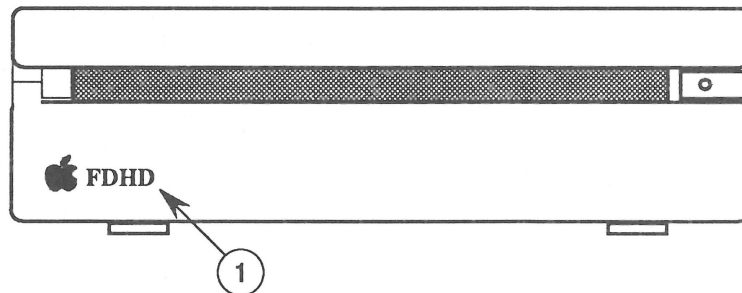

FIGURE 1
1. Check the front of the case; **FDHD** (Figure 1, #1) has been added to all FDHD external drive cases.